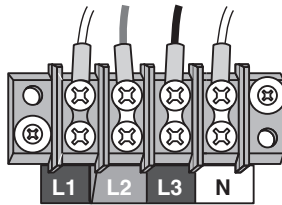

Figure 7 - Voltage Terminal Block
1. Field wired voltage connections are made to the MMU terminal block (shown in Figure 7). The maximum approved torque rating for this Molex terminal block is 12 in-lb.
5. For connections to the voltage terminal block (see example in Figure 7), strip wiring to approximately .300 inches and connect to the appropriate terminals. Wires should be tightened so that they are held snugly in place, but do not to over-tighten, as this may compress and weaken the conductor.